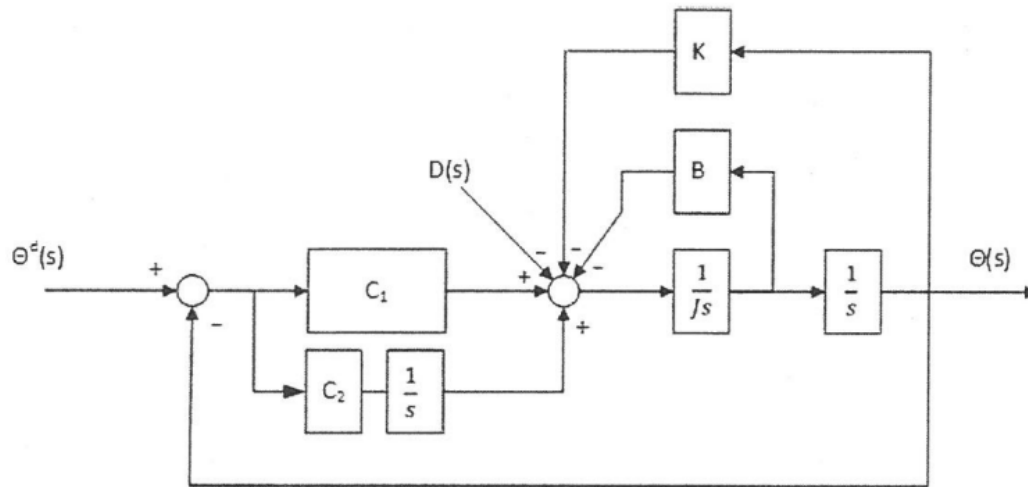

Figure 4: Control system
a) (2.5%) Figure 4 shows up a set-point tracking control system in the Laplace domain. What is the name of the controller used here? What properties does it provide to the system?
Figure 4 demonstrates a **PI** (Proportional-Integral) controller.
b) (2.5%) The system with the controller in Figure 4 have oscillations. How can we remove the oscillations while keeping the other system properties? What is the name of the new controller?